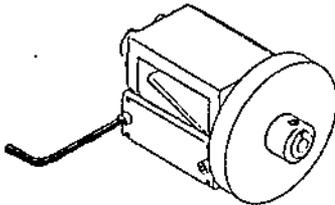

FIGURE 1
Step 3. Using a $7/64$ " hex wrench, loosen and remove the two #6-32 X $3/8$ " socket head cap screws by turning the wrench counter-clockwise. Please see Figures 1 and 2.